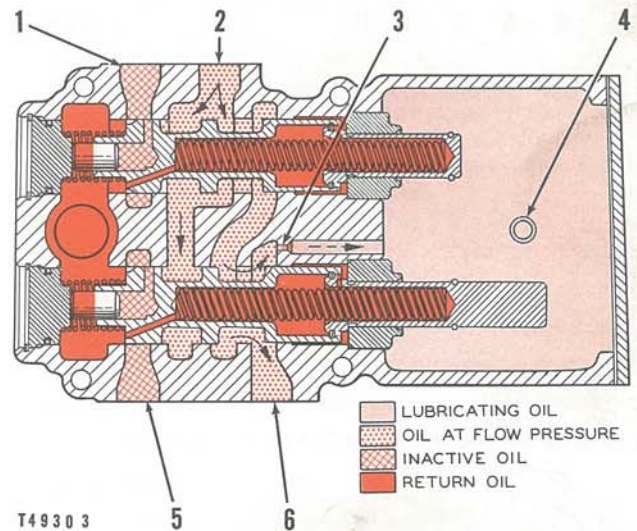

FIG. 1
(Fig. 1), the oil flows through cored passages in the housing, around the lands on the valves, and through outlet port (6) to the transmission oil manifold on direct drive models. An orifice (3) allows a portion of the oil to be bled off for lubrication of the hydraulic control operating mechanism. The level in the operating mechanism compartment is maintained by a standpipe (4), and the overflow oil lubricates the bevel gear and pinion and the bevel gear bearings.